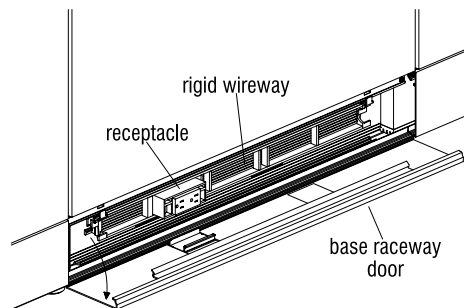

Figure 44
4. Open the base cover and snap the appropriate receptacle into the rigid wireway behind the location where the bezel has been installed. **Figure 44.**